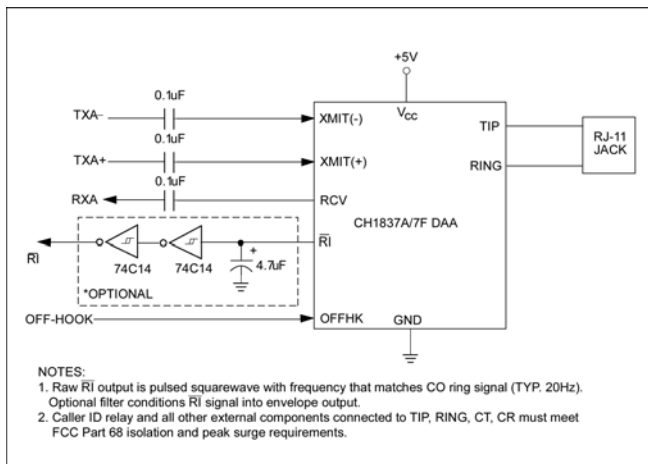

Figure 3. Typical Application.
Ring Detection. To announce an incoming call, the telephone company’s central office (CO) applies an AC ringing signal to the PSTN line. The CH1837A/7F/8A is designed to detect this signal. The CH1837A/7F/8A uses the AC ring signal to produce a square wave pulse train output at the CH1837A/7F/8A RI pin. This pulse train is the same frequency as the incoming AC ring signal and is typically 20 Hz. Figure 3 shows external filtering which may be employed to provide an envelope indication of the ring signal using the CH1837A/7F/8A RI output. The ring detection circuit in the CH1837A/7F/8A family is designed to deter false indications caused by pulse dialing or noise on the PSTN line.
CH1837A/F. The user presents all outgoing transmit signals to the XMIT(-) pin with respect to GND for single ended operation or between XMIT(-) and XMIT (+) for differential operation. This signal must be AC coupled through a 0.1 μ F capacitor present on both the XMIT(-) and XMIT(+) pins as shown in Figure 3.
For single-ended operation, the outgoing analog signal is applied to the XMIT(-) pin with respect to GND. This signal must be AC coupled using a 0.1 μ F capacitor as shown in Figure 3. In single ended signal operation, the XMIT(+) pin must be connected to GND through a 0.1 μ F capacitor.
CH1837A/F. The CH1837A/F derives the incoming signal and presents it at RCV with respect to GND. The user must AC couple RCV through a 0.1 μ F capacitor as indicated in Figure 3.